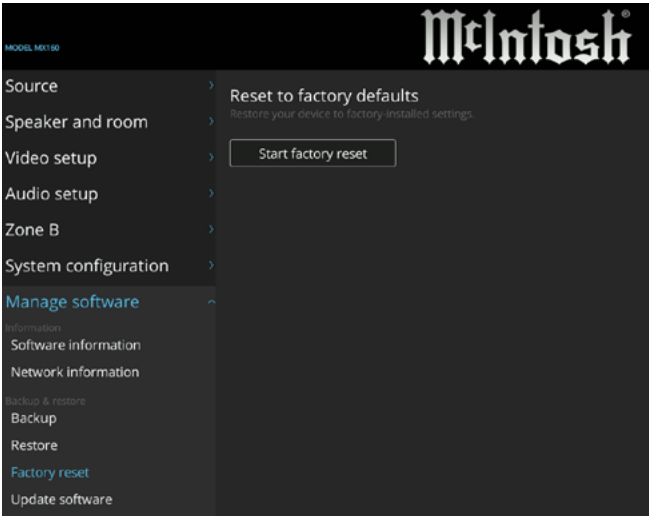

Figure 10
- 4. Select “Factory reset” by using the Down ▼ Directional Push-button on the Remote Control. Refer to figure 10.